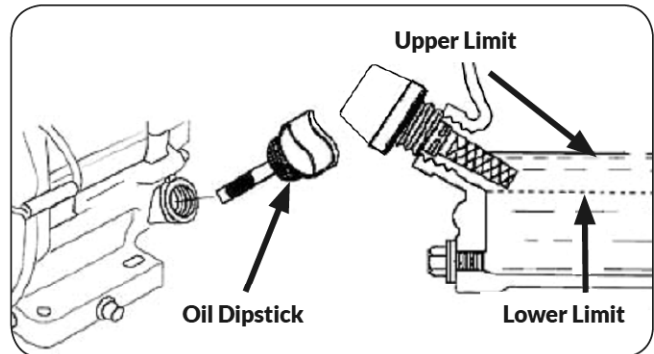

Figure 2
2. Check Oil (See **Figure 2**)